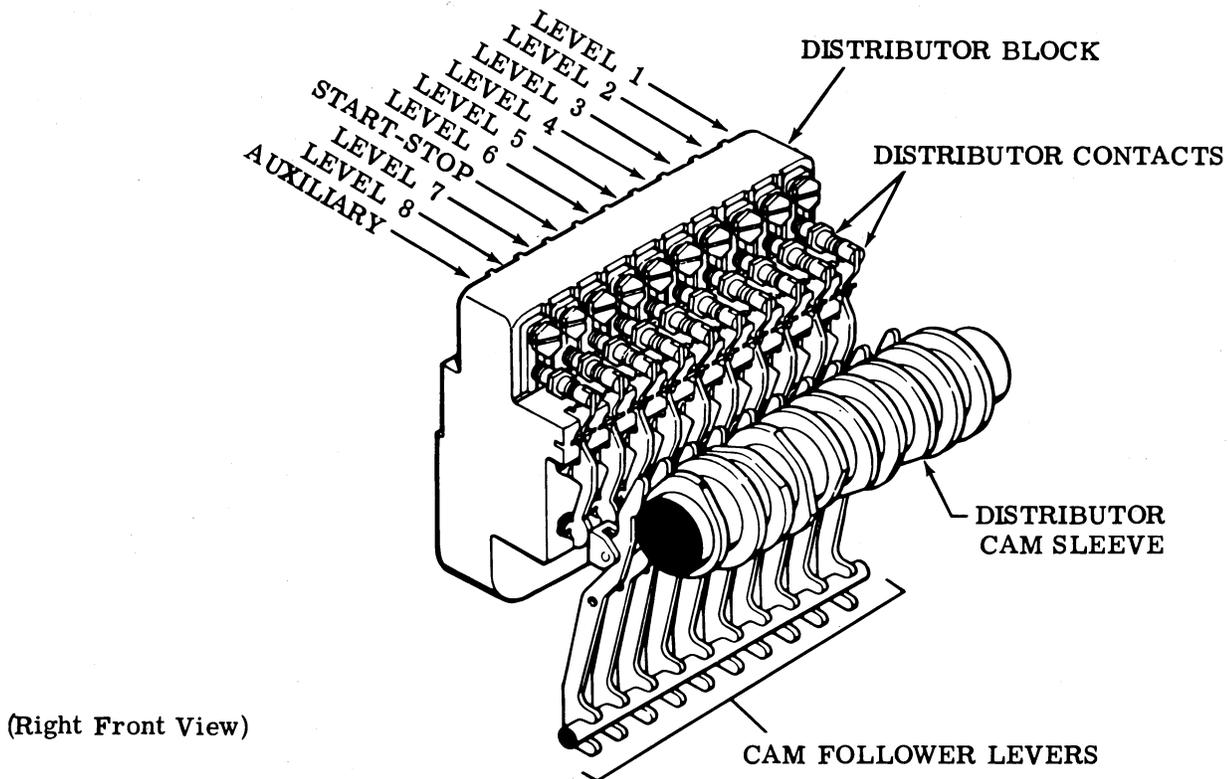

Figure 15 - Distributor Mechanism
7.06 The contacts on the sense storing switch are connected electrically to the contacts on the distributor mechanism contact block (Figures 15, and 16). The read storing switch contacts are connected to external circuits. At this time, the electrical equivalent of the character sensed is set up in the sense and read storing switches.